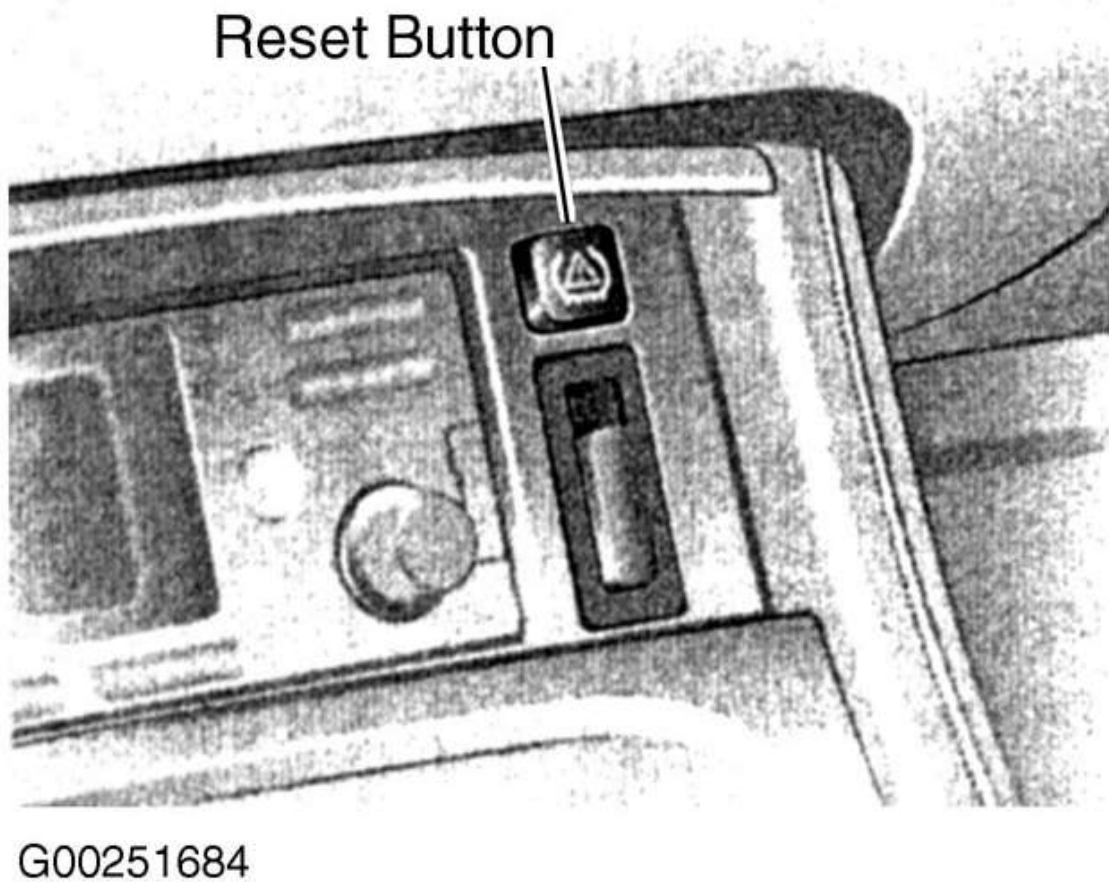

Fig. 17: Locating TPM System Reset Button (Z28)
3. Press reset button (for no longer than 10 seconds) until tire pressure warning light illuminates Yellow for a few seconds. See Fig. 15, Fig. 16, Fig. 17, or Fig. 21 .